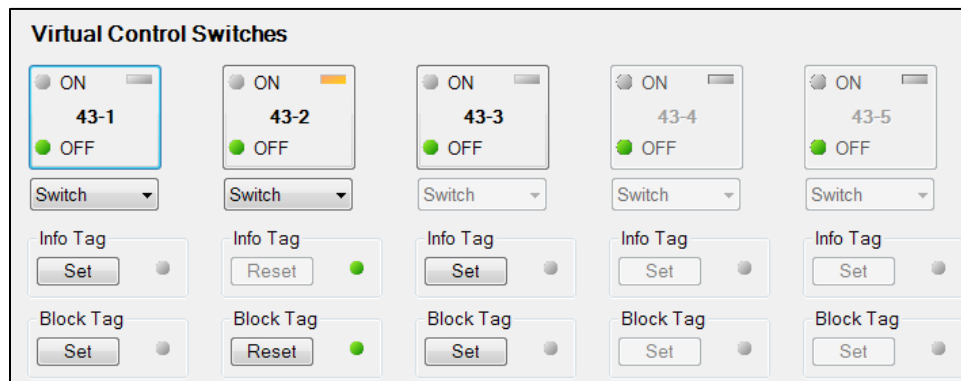

Figure 74-2. BESTCOMSP*Plus* Virtual Switches Control Screen
- Step 4: Use the Metering Explorer of BESTCOMSP*Plus* to open the Control, Virtual Switches tree branch (Figure 74-2). Using select-before-operate, perform the following steps to control a virtual switch.
- Step 3: Use the Metering Explorer of BESTCOMSP*lus* to open the Control, Virtual Switches tree branch (Figure 74-2). Using select-before-operate, perform the following steps to control a virtual switch.